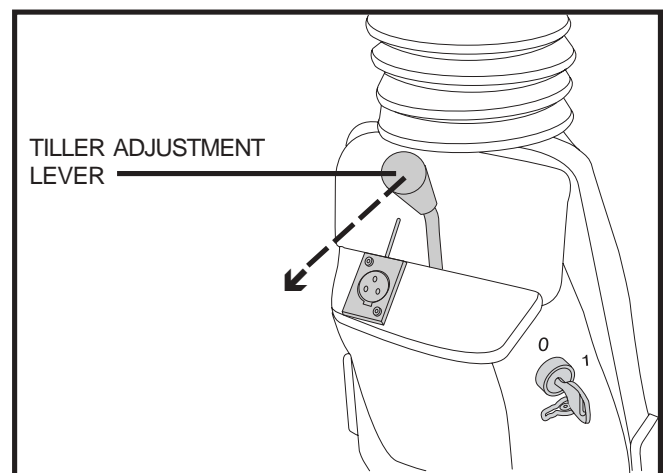

Figure 20. Tiller Angle Adjustment
1. Pull down on the tiller adjustment lever. See figure 20.